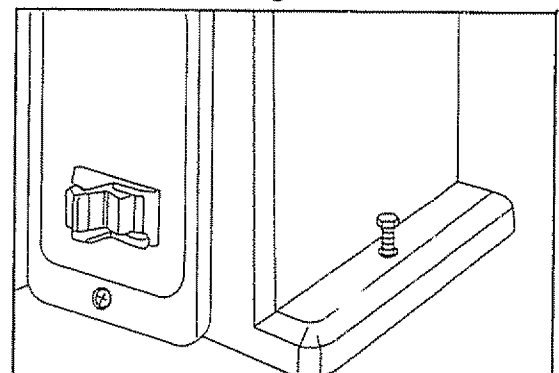

Fig. 12
■ Fastening sander to work surface (see figure 12)